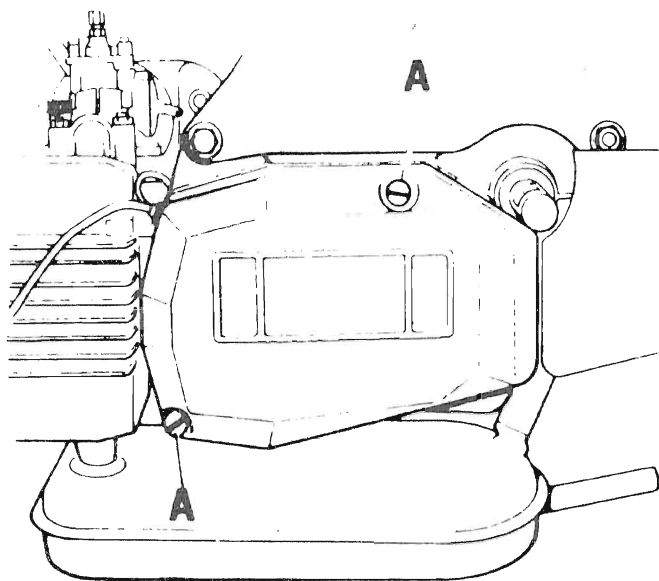
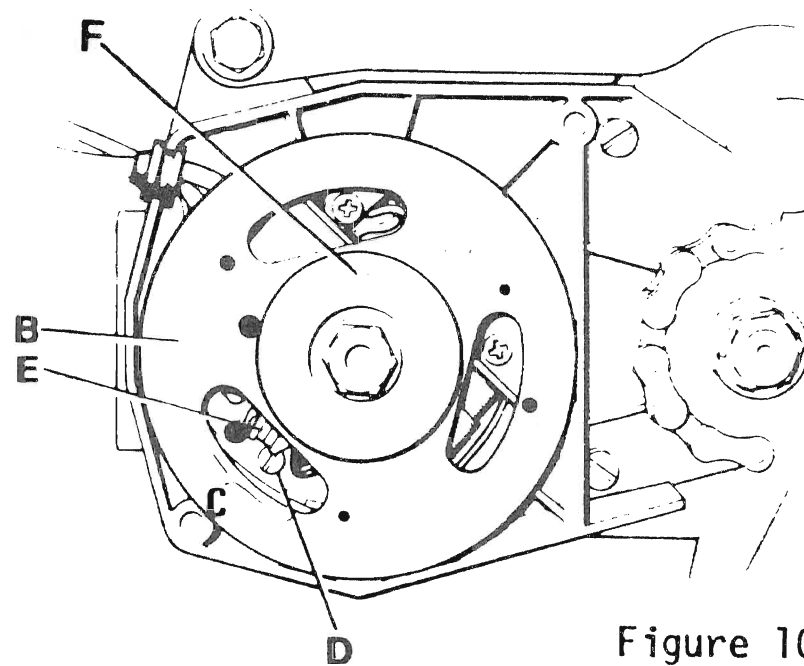

Figure 9
Figure 10
Remove two screws and remove the left side outer cover, Fig. 9. Turn the flywheel (B) until window (C) is in the position shown in Fig. 10. The contact points are then visible.